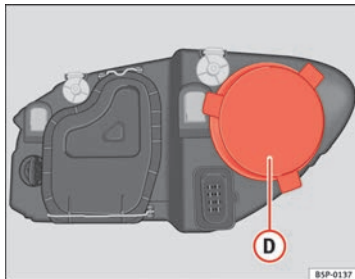

Fig. 187 Side light
- Remove the cover ⇒ Fig. 187 **D** by pulling on this.